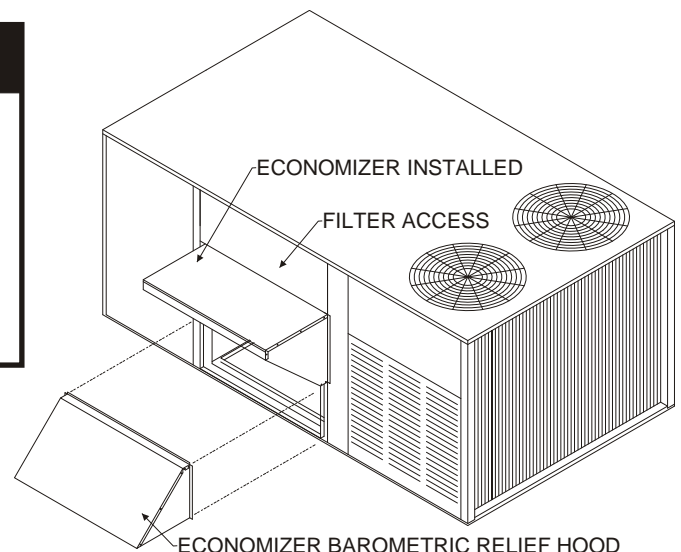

Figure 2
3. Remove the barometric relief hood of economizer, if previously installed, and retain screws for later use. See Figure 2.